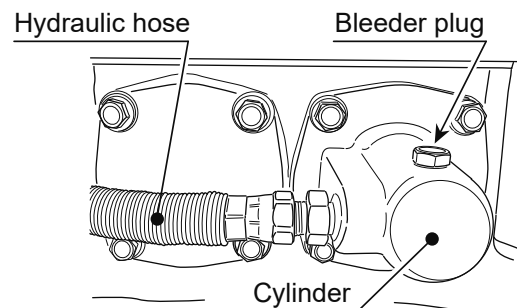

Fig.45
- 2 Remove the hydraulic hose connected to the cylinder on the vibrator and fix the travel operation lever at maximum forward position with rope, then drain the hydraulic oil in the hand pump. (Fig.45)
- 3 After draining, reassemble the hydraulic hose to the cylinder on the vibrator. (Fig.45)
- 5 Loosen the bleeder plug located at the top of cylinder on the vibrator, after a while oil with air bubbles will come out. After air bubbles in oil are free, tighten the bleeder plug firmly. (Fig.45)